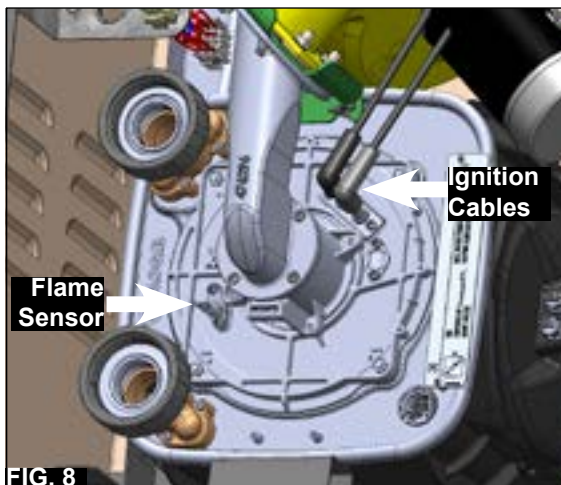

FIG. 8
7. Disconnect the ignition cables and flame sensor cable from the burner manifold assembly. See Fig. 8.